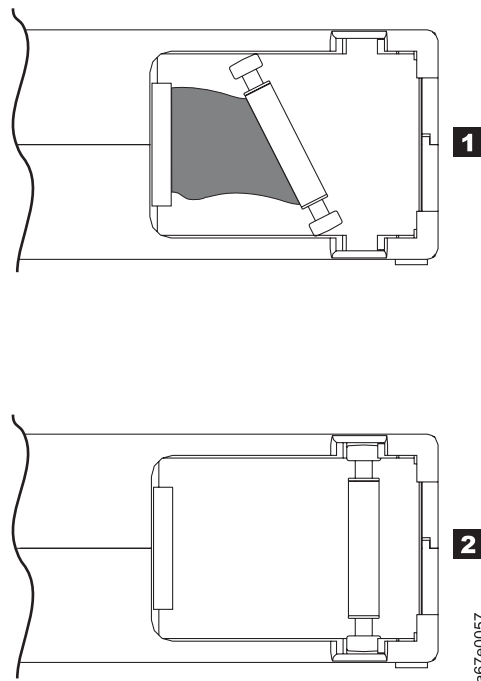

Figure 8-8. Leader pin in the incorrect and correct positions. The cartridge door is open and the leader pin is visible inside the cartridge.
- Do not drop the cartridge. If the cartridge drops, slide the cartridge door back and ensure that the leader pin is properly seated in the pin-retaining spring clips (**2** in Figure 8-8 on page 8-11). If the leader pin has become dislodged, go to "Repositioning or Reattaching a Leader Pin" on page 8-10.
- Check that the leader pin is properly seated (see 2 in Figure 8-8 on page 8-11).
Example: Improper Placement of Leader Pin (see Figure 8-8 on page 8-11)
A leader pin that is improperly seated inside a cartridge can interfere with the operation of the drive. Figure 8-8 shows a leader pin in the incorrect (**1**) and correct (**2**) positions.